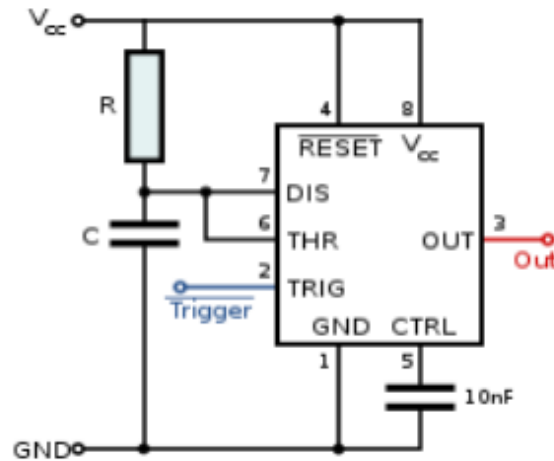

Fig. 4: RESET State
2. Now apply negative triggering pulses of frequency 1 KHz at pin 2, as shown in Figure 4.